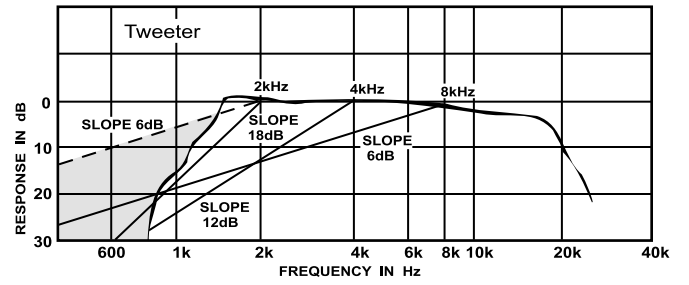
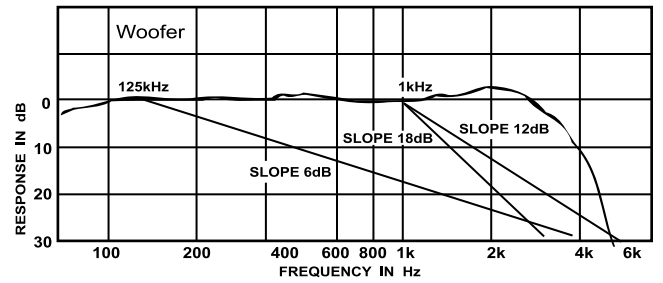
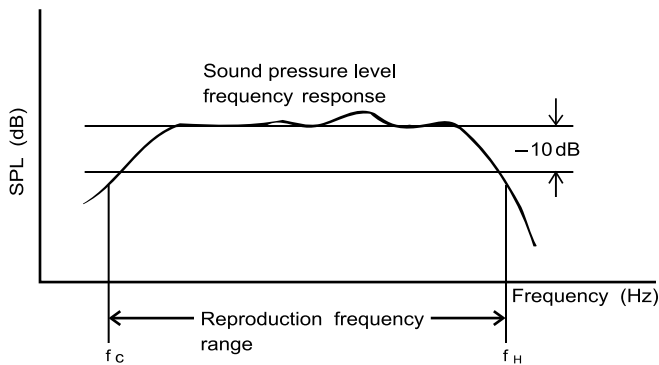

Fig. 10
Fig. 11
Fig. 9
- All speakers have a reproduction frequency range (see Fig. 9) which is described in the speaker's technical specifications. This will include crossover or cut-off frequencies. These specifications, however, usually quote the upper or lower limits. So when considering slope selections, it is advisable to select cut-off frequencies somewhat higher than the rated frequency for tweeters (see Fig. 10), and frequencies somewhat lower for woofers (see Fig. 11).
If 2kHz is chosen as the crossover frequency for a tweeter whose cut-off frequency is also around 2kHz (see Fig. 10), selection of the 6dB/oct slope will mean that the tweeter will be liable to receive signals of frequencies which it is not able to handle properly (indicated by shaded area). This will result in loss of tonal quality, or in extreme cases, damage to the tweeter itself.
In general, when the crossover frequency is close to the speaker's upper (or lower) limit of the reproduction frequency range (Fig. 9), the selected slopes should be either 18dB , or 12dB .
Fig. 11 is an example of suitable woofer cut-off frequencies for different slopes.